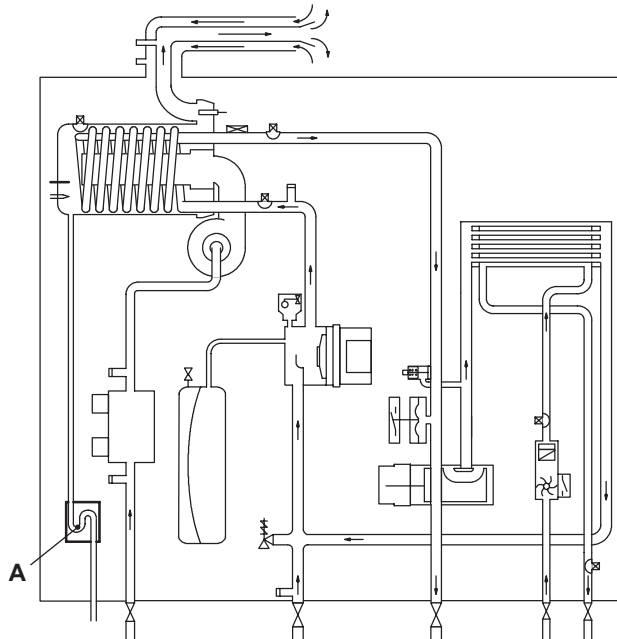
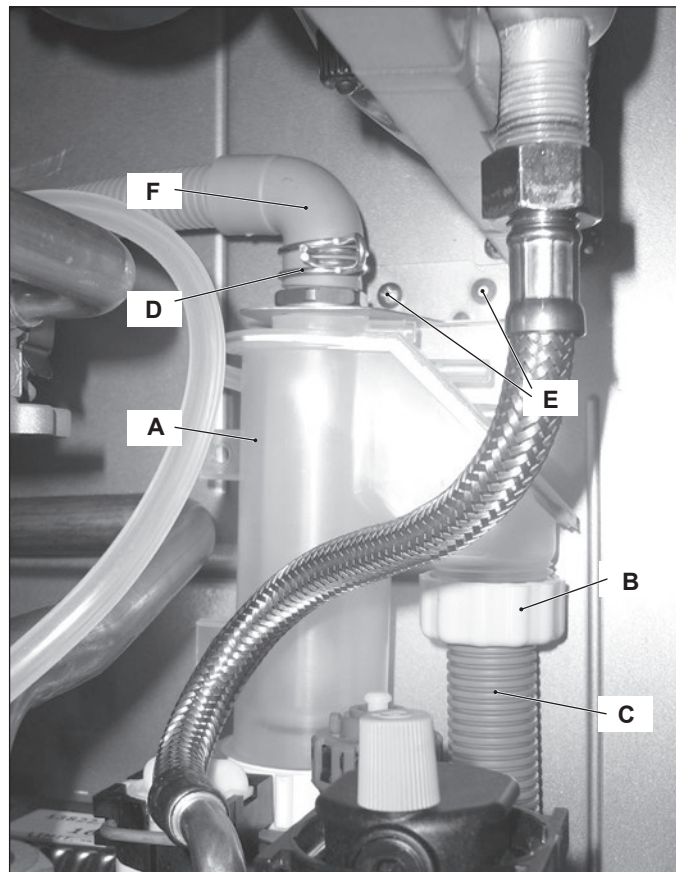

Figure 21.1
Figure 21.2
The condensate trap "A" in Figure 21.1 and Figure 21.2 allows the discharge of the condensate via the condensate drain pipe avoiding in the mean time the escape of combustion products. A plastic ball closes the trap outlet in case that the trap is empty.
Unscrew the plug "B" on the bottom of the trap "A" (Figure 21.2) and clean as required.
- 2 Unscrew the threaded locking ring "B" and remove the flexible pipe "C" (Figure 21.2).